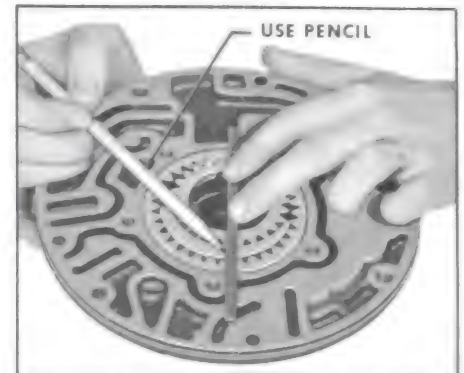

Figure 5-186
5. Mark, but do not scar, gear faces so gears can be reassembled in same manner. See Figure 5-186.